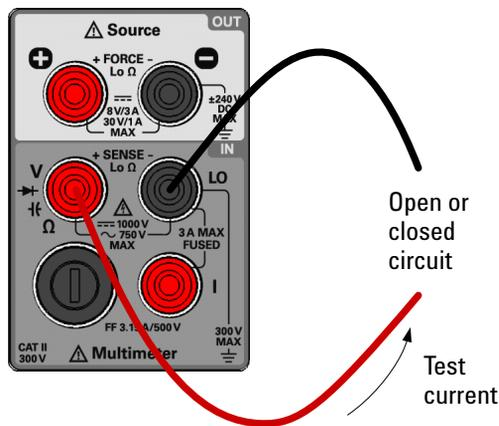

Figure 2-8 Terminal connections for continuity tests
- 2 Connect the red and black test leads to input terminals Ω (red) and **LO** (black) respectively as shown in **Figure 2-8**.